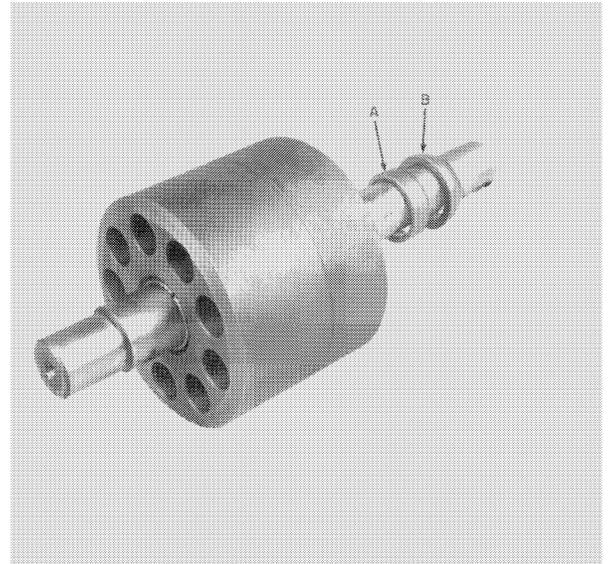

FIGURE 28
11. Remove pistons from block as shown in Figure 28. Remove pivot, B, and spacer, A, from shaft. Remove piston block and key from shaft.
4. Slide spacer, A, and pivot, B, Figure 28, on shaft.